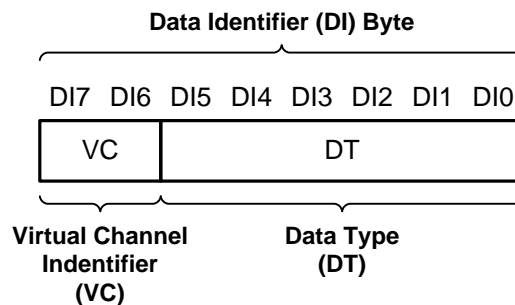

图 33. CSI-2 Data Identifier Structure
The DS90UH940N-Q1 MIPI CSI-2 protocol interface transmits the data identifier byte containing the values for the virtual channel ID (VC) and data type (DT) for the application specific payload data, as shown in 图 33. The virtual channel ID is contained in the two MSBs of the data identifier byte and identify the data as directed to one of four virtual channels. The value of the data type is contained in the 6 LSBs of the data identifier byte.